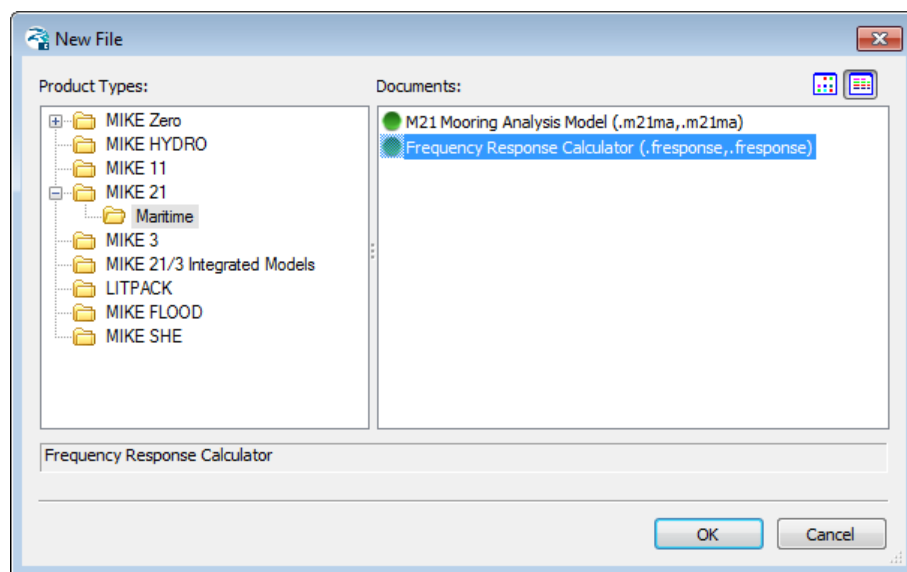
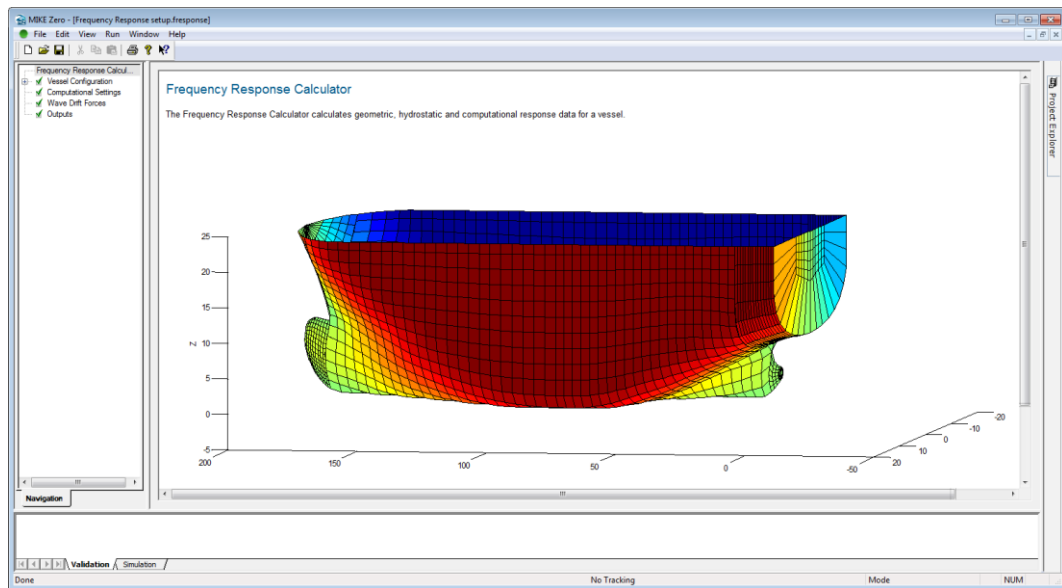

Figure 2.1 Location of Frequency Response Calculator setup editor
Figure 2.2 FRC main page
1. Continue to create a new instance of the (.fresponse) editor as showed in Figure 2.1 by clicking OK. The FRC main page (Figure 2.2) should appear on the screen.